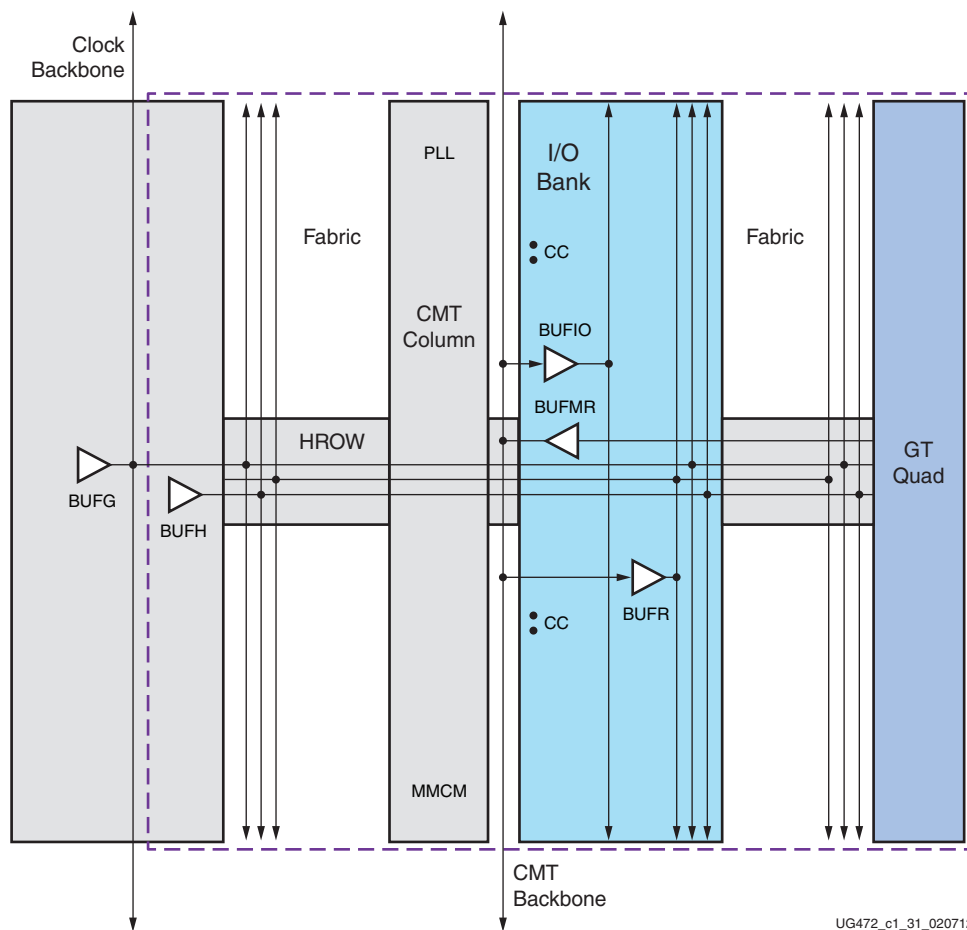

Figure 1-2: Basic View of Clock Region
Figure 1-2 is a high-level overview of clock resources available in a clock region and their fundamental connectivity. The global clock buffer can drive into every region through the HROW even if not physically located there. The horizontal clock buffers (BUFH) drive through the HROW to every clocking point in the region. BUFHs and BUFHs share routing tracks in the HROW. The I/O buffers (BUFIO) and regional clock buffers (BUFR) are located inside the I/O banks. The BUFIO only drives I/O clocking resources while the BUFR drives I/O resources and fabric resources. The BUFMR enables multi-region chaining of BUFIOs and BUFR. The clock capable (CC) inputs connect external clocks to clocking resources on the device. Certain resources can connect to regions above and below through the CMT backbone.